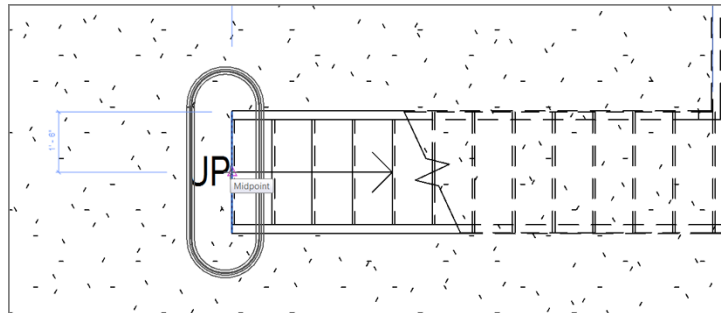

FIGURE 10.70: Placing the landing
5. Place the landing under the last tread at the point shown in Figure 10.70.